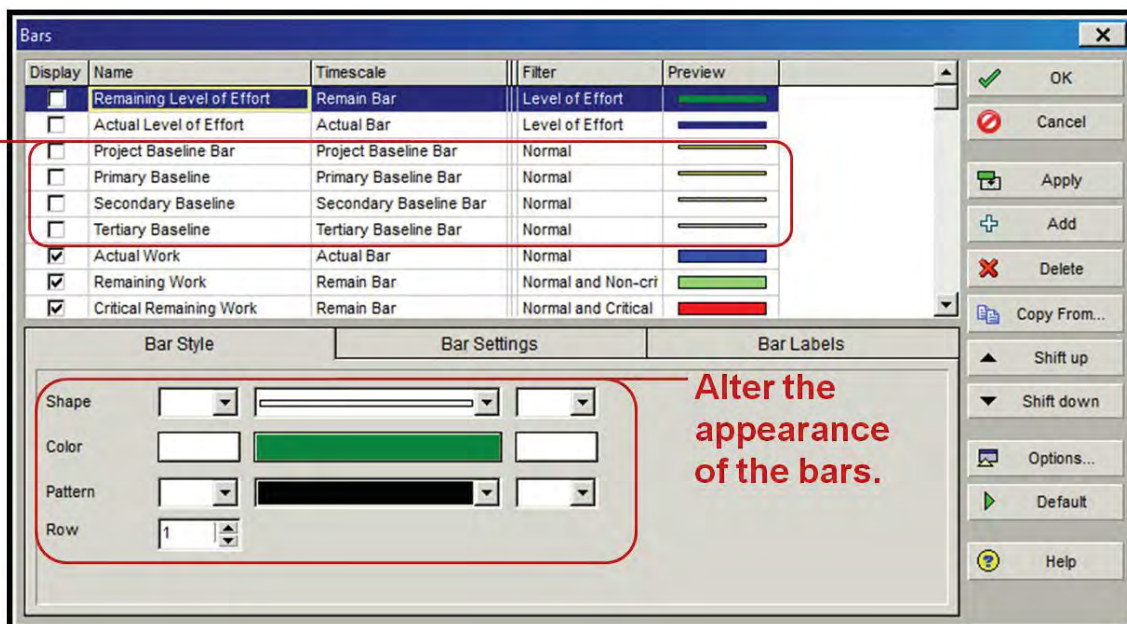

Figure 6-2 Bars Window
- Click on the  (Bars) button in the Activities Toolbar to open the Bars window, **Figure 6-2**.